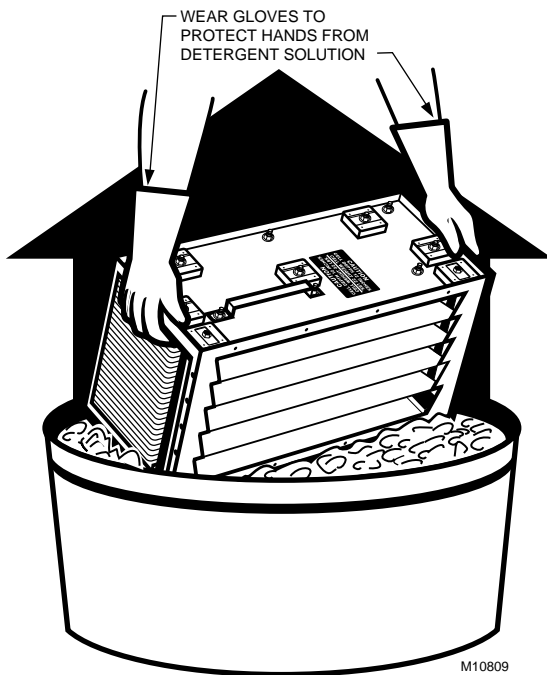

Fig. 19. Agitate the cells in the water.
3. Soak the cells in the solution for up to 15 minutes; agitate the cells up and down. See Fig. 19.